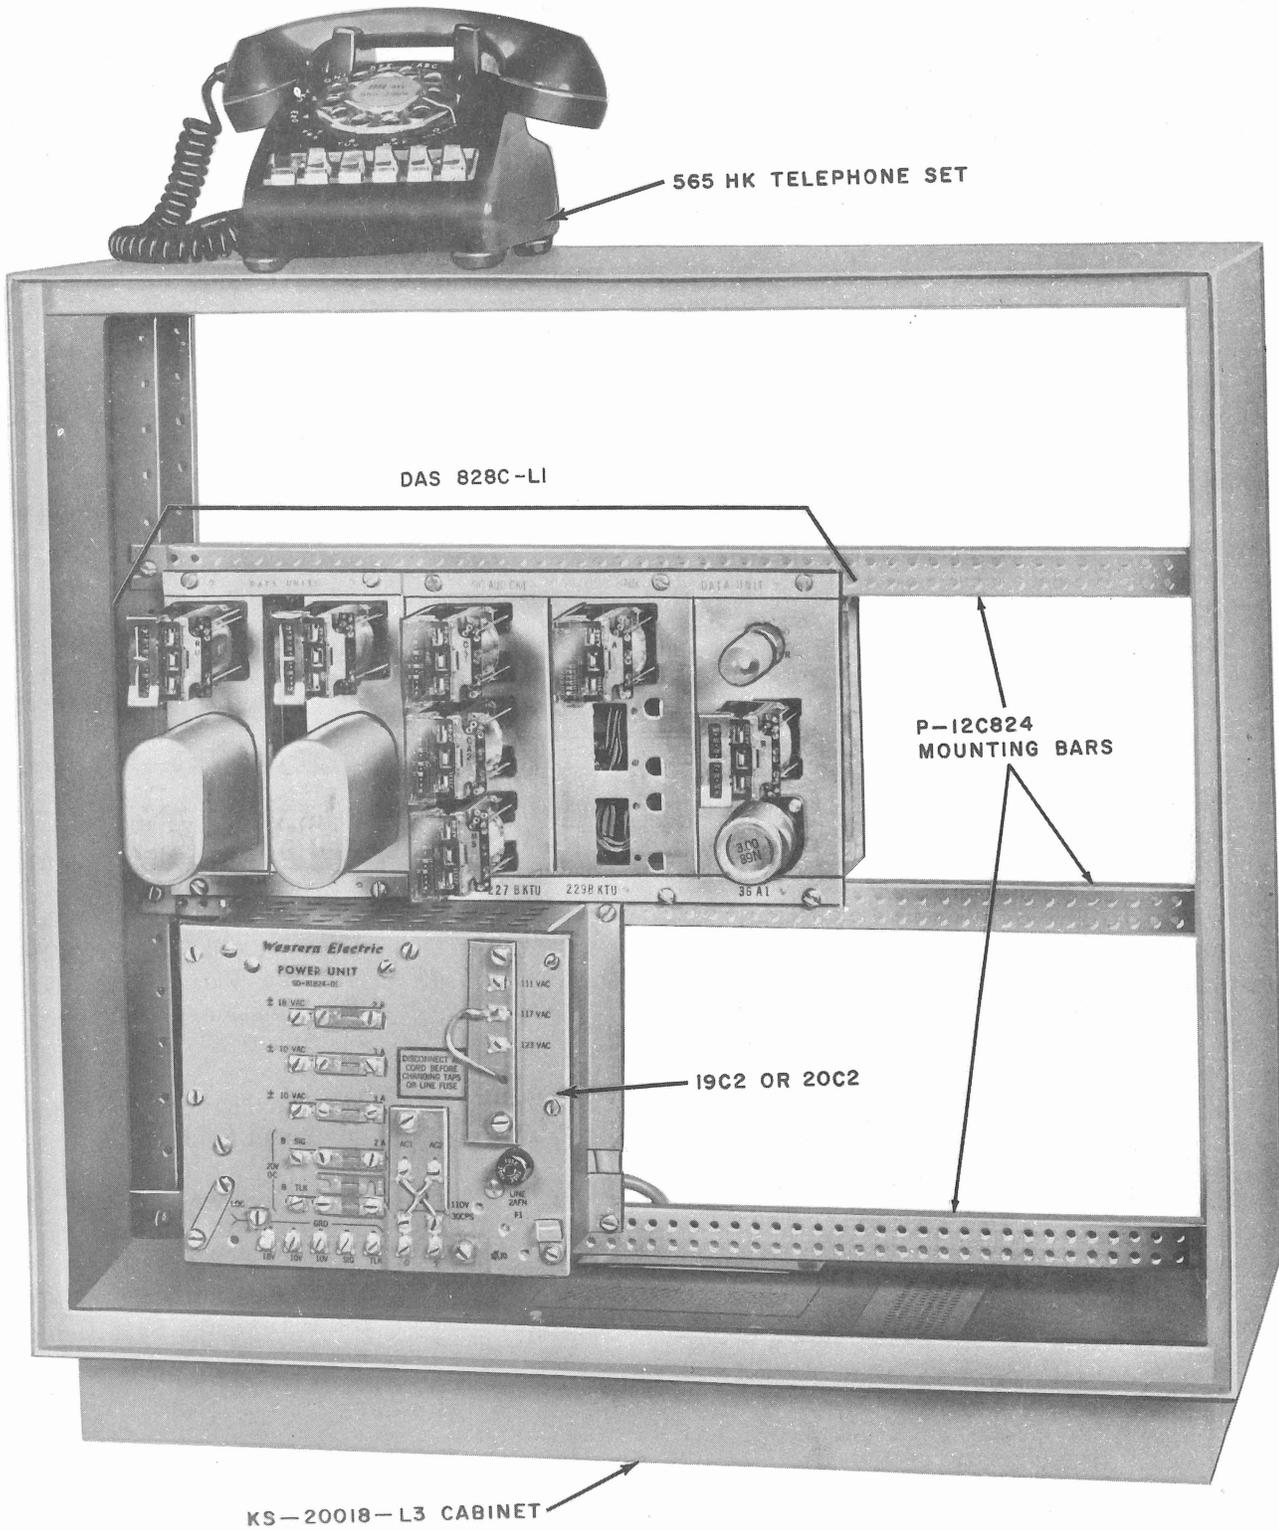

Fig. 12—Front View of Cabinet-Mounted DAS 828C-L1 Equipped With Locally Supplied DC Power Supply and Plug-In
7.08 Figure 12 is a typical example of a cabinet-mounted DAS 828C-L1 with a power